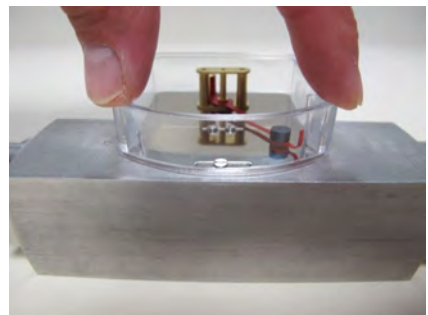

Fig. 61
13. ▶ Fit the plastic housing on the display base plate and press down until it snaps into place. (Fig. 61)